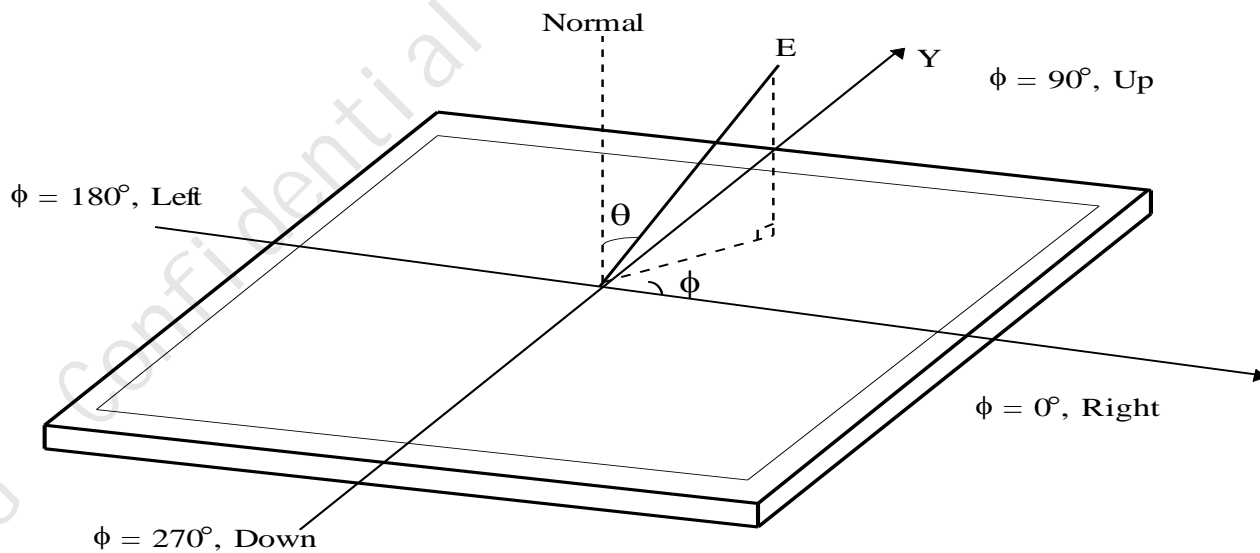

FIG.10 Viewing Angle
- Viewing angle is the angle at which the contrast ratio is greater than 10. The angles are determined for the horizontal or x axis and the vertical or y axis with respect to the z axis which is normal to the LCD module surface. For more information, see the FIG.10.